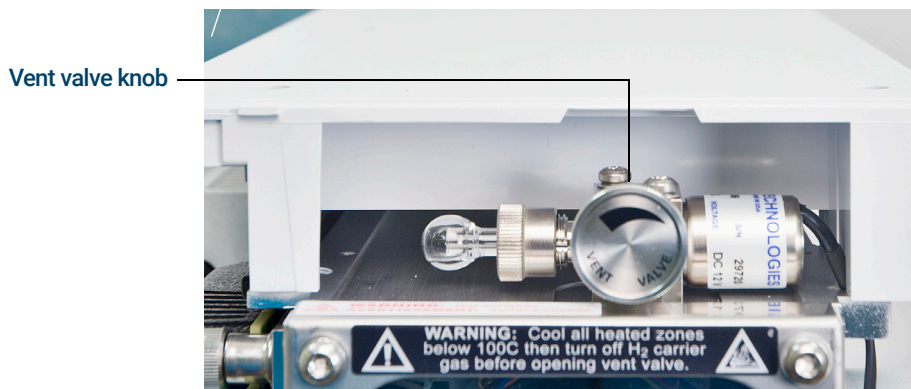

Figure 37 Vent valve knob
- 8 When prompted, turn the vent valve knob counterclockwise *only* 3/4 turns or until you hear the hissing sound of air flowing into the analyzer chamber. (See Figure 37.)